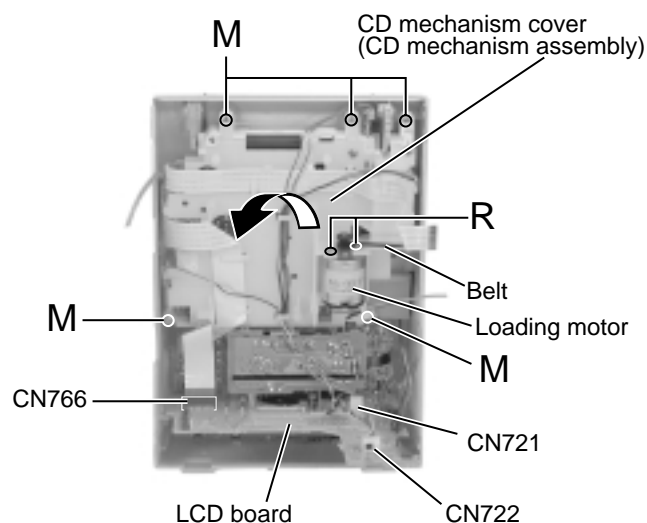

Fig.18
### ■ Removing the CD mechanism assembly (See Fig.18 to 21)
- Prior to performing the following procedure, remove the CD mechanism assembly and the LED board (A) / (B).
**■ Removing the loading motor (See Fig.18)**